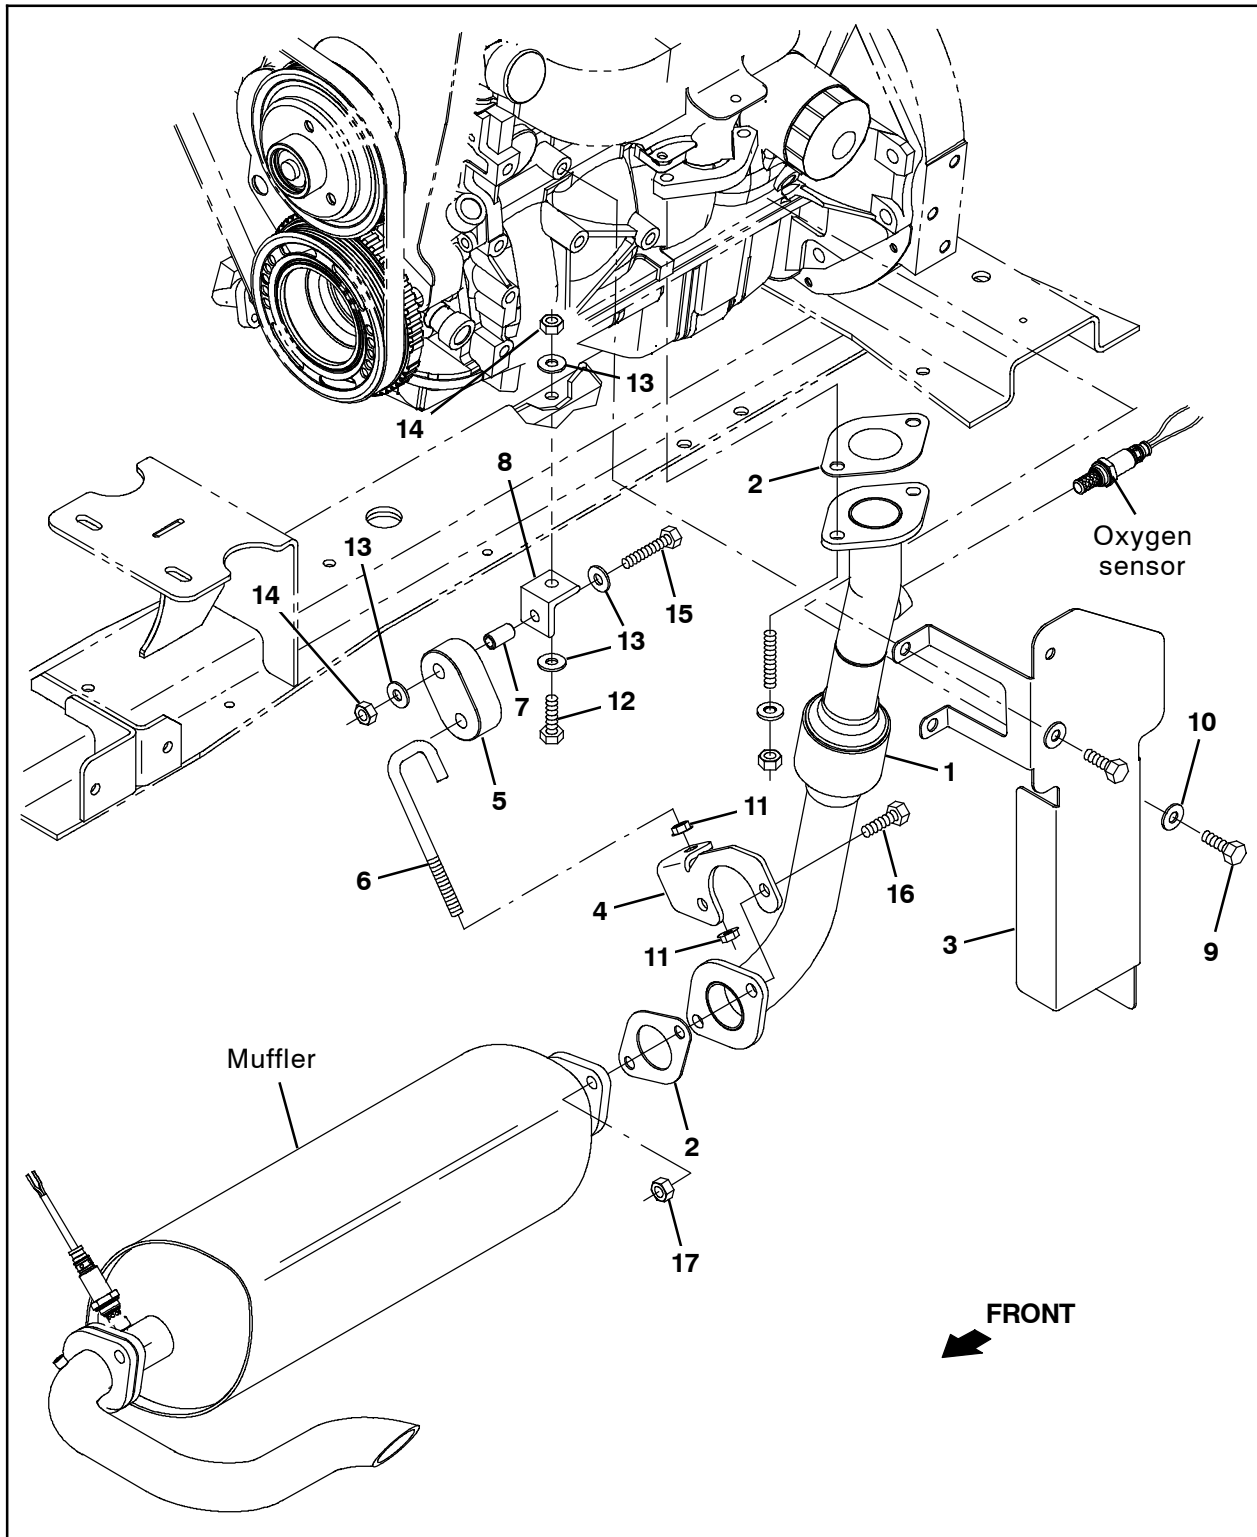

FIG. 4
4. Place one gasket (2) onto the new exhaust tube (1) and use saved hardware to connect the exhaust tube to the engine. (Fig. 4)
5. Use two flange nuts (11) to install the hanger (6) onto the muffler mounting bracket (4). Do not completely tighten the flange nuts. The flange nuts are tightened during final adjustment. (Fig. 4)
6. Use one M8 hex screw (12), two flat washers (13), and one M8 hex lock hex nut (14) to install the mounting angle (8) onto the frame of the machine. (Fig. 4)
7. Use one M8 hex screw (15), two flat washers (13), one sleeve (7), and one M8 hex lock hex nut (14) to install the rubber isolator (5) onto the mounting angle (8). (Fig. 4)
8. Install the hanger (6) into the rubber isolator (5). (Fig. 4)
9. Adjust the hanger (6) in the muffler mounting bracket (4) for the height where the exhaust tube (1) will be installed onto the muffler. (Fig. 4)
10. Place the remaining gasket (2) between the exhaust tube (1) and muffler and use two M10 hex screws (16) and two M10 hex nuts (17) to connect the exhaust tube and muffler mounting bracket (4) to the muffler. (Fig. 4)
11. Check adjustment of hanger (6) in the muffler mounting bracket (4) and make necessary adjustments. Tighten the flange nuts (11). (Fig. 4)
12. Connect the oxygen sensor to the exhaust tube (1). (Fig. 4)
13. Use saved hardware and one M8 hex screw and one flat washer (10) to install the heat shield (3) over the exhaust tube (1) and onto the engine. (Fig. 4)